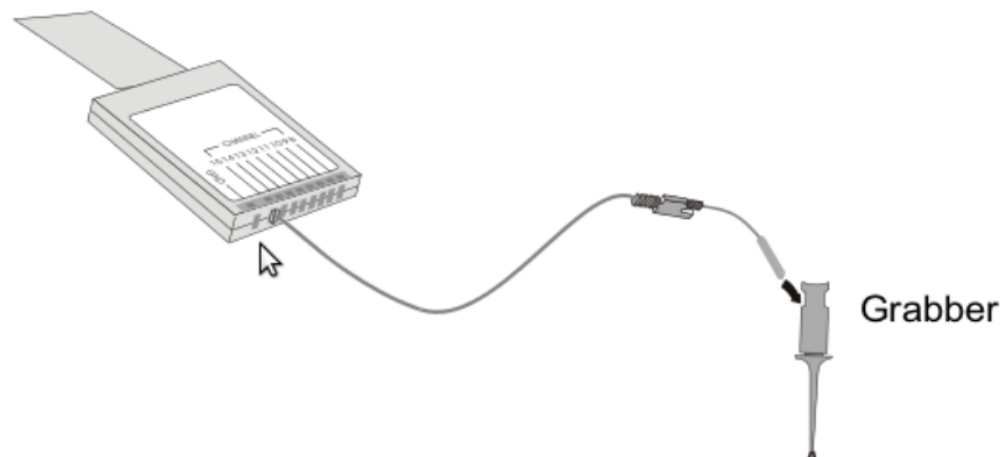

Figure 7: Connect a probe to a grabber
3. Connect other grabbers to probes, and then connect a grabbers to the nodes you would like to test. This is shown in Figures 7 and 8.